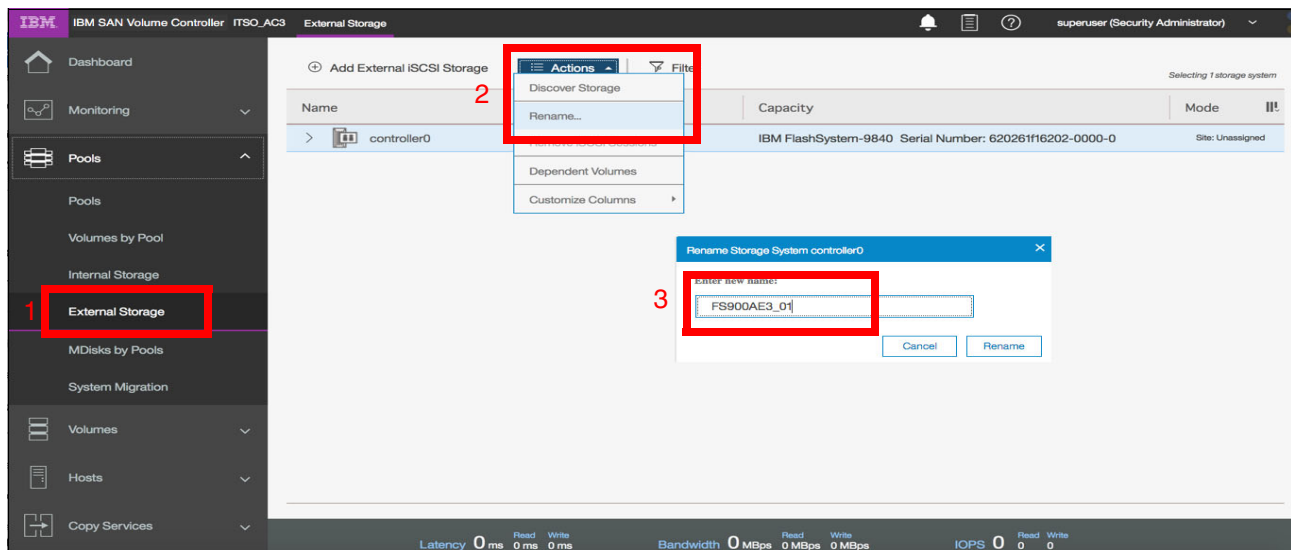

Figure 8-6 IBM FlashSystem 900 as external storage to SAN Volume Controller
- ▶ Use the SAN Volume Controller GUI to browse to **Pools** → **External Storage** (indicated by 1 in Figure 8-6) and then, select the **controller** (2 in Figure 8-6) that you want and click **Actions** → **Rename**. Change the name (3 in Figure 8-6) in the window. As shown in Figure 8-6, the controller is renamed to `FS900AE3_01`.
After you change the name, you can easily identify the IBM FlashSystem 900 as a controller to SAN Volume Controller as shown in Figure 8-6.